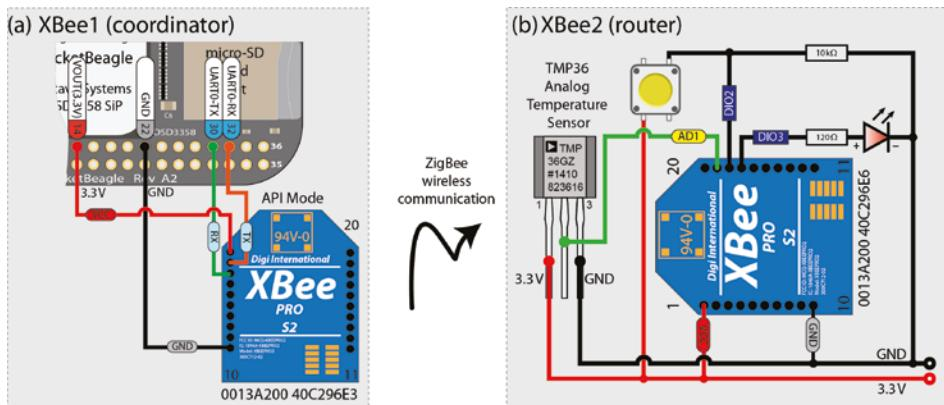
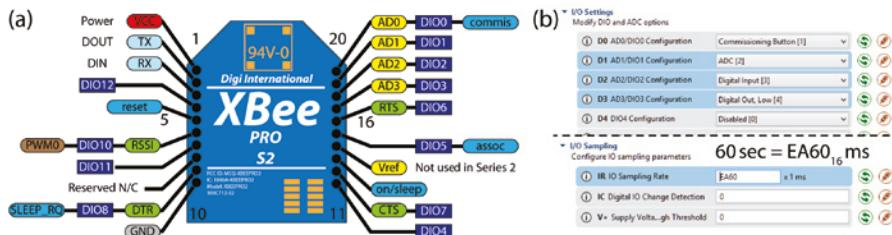

Figure 12-16: (a) The XBee1 PocketBeagle coordinator circuit and (b) the stand-alone XBee2 router circuit with sample I/O connections
Figure 12-17: (a) The XBee S2/S2C pinout and (b) the XCTU I/O settings for an XBee S2/S2C module
In this section, two identical XBee S2/S2C ZigBee devices are configured into API mode by writing new firmware to them. As illustrated in Figure 12-15, XBee1 is configured as a ZigBee Coordinator (API mode), and XBee2 is configured as a ZigBee Router (API mode). In this example, the coordinator is attached to the PocketBeagle, but the XBee router is utilized as a stand-alone microcontroller, as illustrated in Figure 12-16.
The PAN ID is set to 1234 for both devices. Once the PAN ID is set for XBee1, it can be disconnected from the XBee USB Explorer and attached to the PocketBeagle, as illustrated in Figure 12-16(a).
In this example, the XBee2 router device is not attached to an Arduino; rather, it is used as a stand-alone microcontroller, as illustrated in Figure 12-16(b). The full list of input/outputs is illustrated in Figure 12-17(a), and the settings used to configure them in XCTU are illustrated in Figure 12-17(b).
The program outputs the Node Identifier information, and then every 60 seconds (as configured in Figure 12-17(b)) the XBee2 router device reads its ADC input and transmits the value to the XBee1 coordinator node. You can see that the value received here is 601 (i.e., from a 10-bit ADC) and that the button (DIO2) is pressed.
- remote64 is the address of the node that transmitted the data, which corresponds to the address of the XBee2 in Figure 12-16(b).
Using the same circuit configuration as in Figure 12-16, you can execute the `simple.c` program in `/chp12/xbee/cpp/` to test the library (remember to set the XBee UART device in the `simple.c` file):